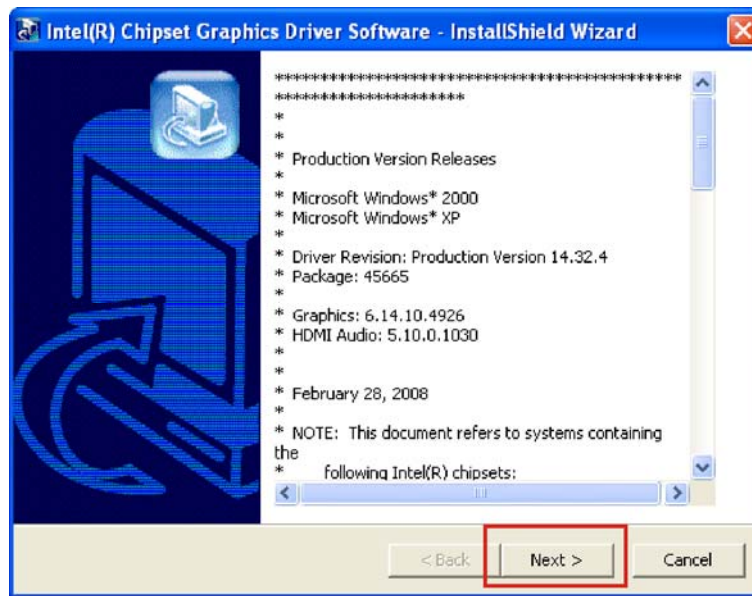

Figure 6-9: VGA Driver Read Me File
Step 3: The VGA Read Me file in Figure 6-9 appears.